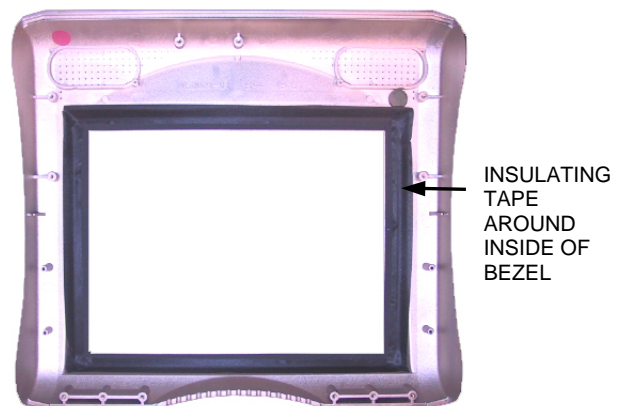

FIGURE 2 – BEZEL WITH INSULATING TAPE
7. Apply the supplied tape to the inside edge of the bezel as shown in Figure 2. Tape each side so that the width of the tape covers the entire plastic lip, from the edge of the bezel to the bend in the plastic.